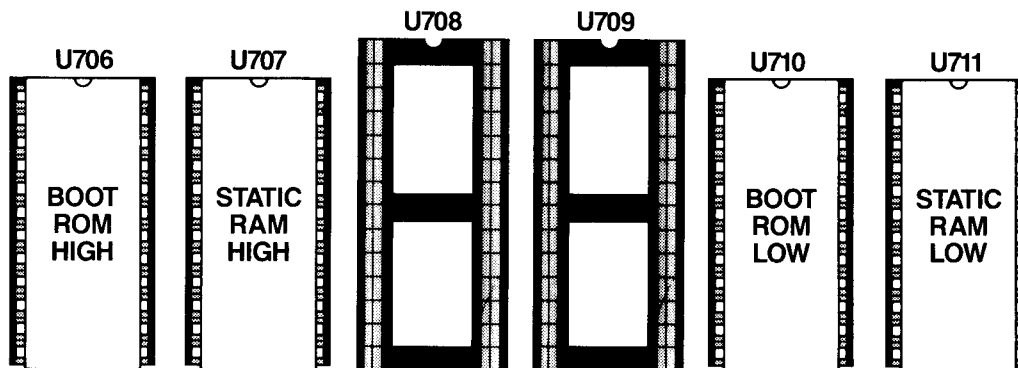

Figure 19. REV 03 ROM and RAM Locations
4. Locate the Boot ROMs on the Processor Board at U706, ROM0U, and U711, ROM0L. Remove the ROMs at these locations if they are not version 0.5 or later. Place a ROM labeled CC 0.5 H or later in location U706 and the ROM labeled CC 0.5 L or later in location U711 on the Processor Board. (See Figure 19.)
6. Place the ROM labeled MACSbug 2.0 L in location U709. Place the ROM labeled MACSbug 2.0 H in location U708 of the Processor Board. The MACSbug ROM sockets are 28-pin sockets, and the MACSbug ROMs are 24-pin devices. The sockets should have the top four pin locations unused (i.e. pins 1,2,27 and 28). Figure 19 depicts proper installation.